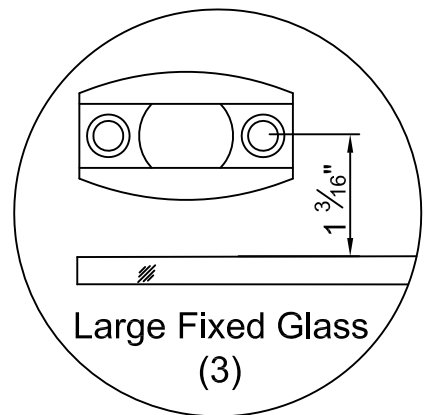

Fig.21
21. Position the Sliding Door Track Divider (8) into position as seen in Fig.21 and mark the 2 shower base hole positions.
**Note:** In Fig.21 the hole locations for attaching sliding door track divider should be  $1 \frac{3}{16}$ " from edge of Large Fixed Glass (3).
See Fig.21 for details.